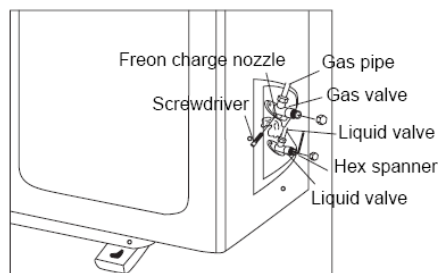

Fig.11-10
- Open cores of liquid valve and gas valve completely (fig.11-10).